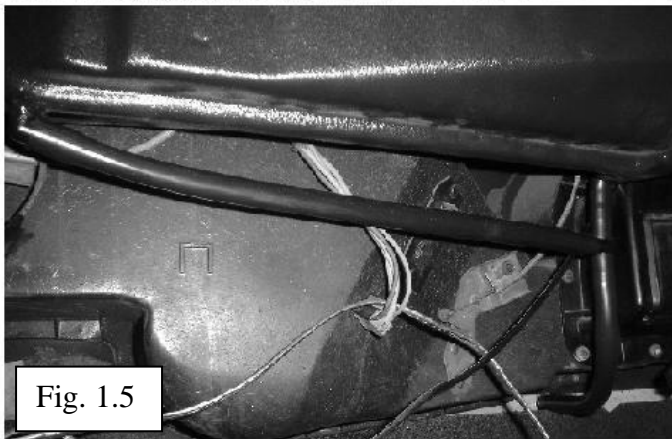

Fig. 1.5
11) We recommend keeping the drain out of site, out of the feet area, and not draining onto the exhaust. Figure 1.5